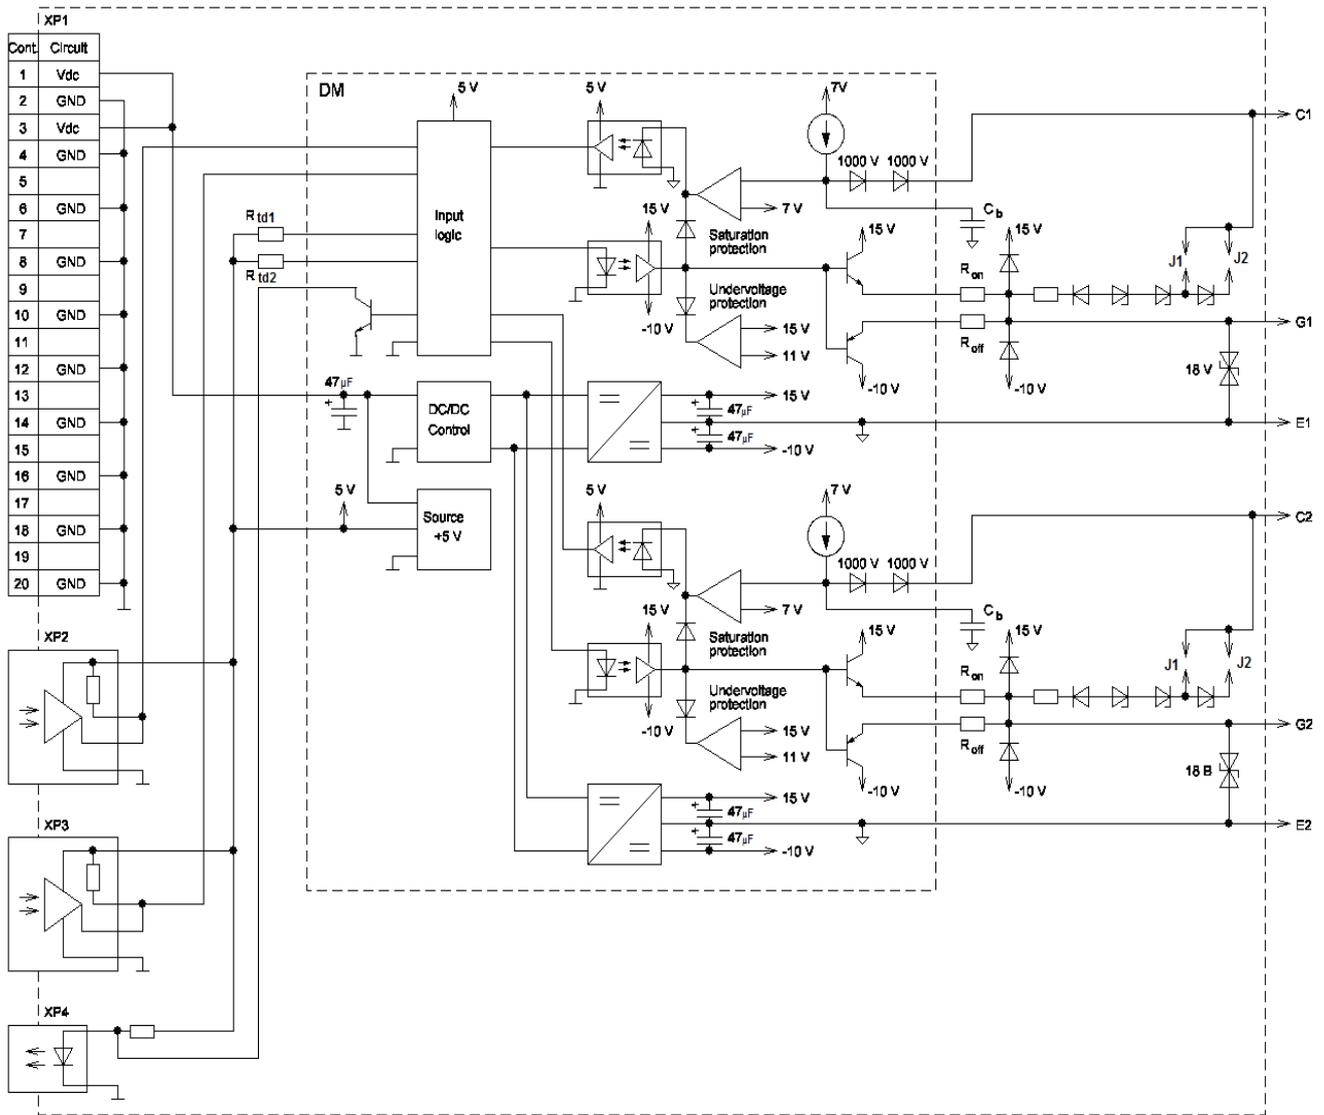

Figure 2– Functional driver circuit and turn-on circuit
3.2 Overall drawing is shown at Figure 1, functional driver scheme is represented at Figure 2